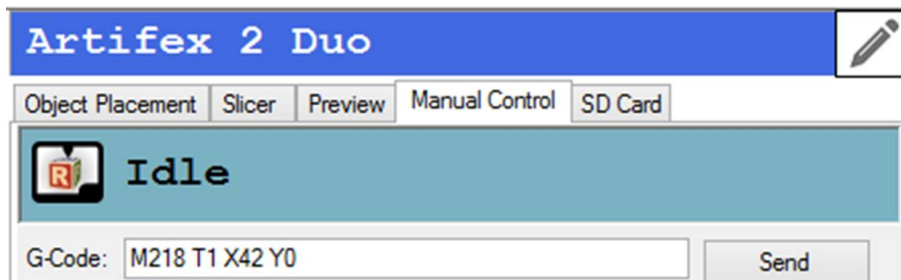

Figure 6.8: Initializing extruder offsets to the default values
- First, reset the nozzle offsets to the default values using the M218 command (Figure 6.8).